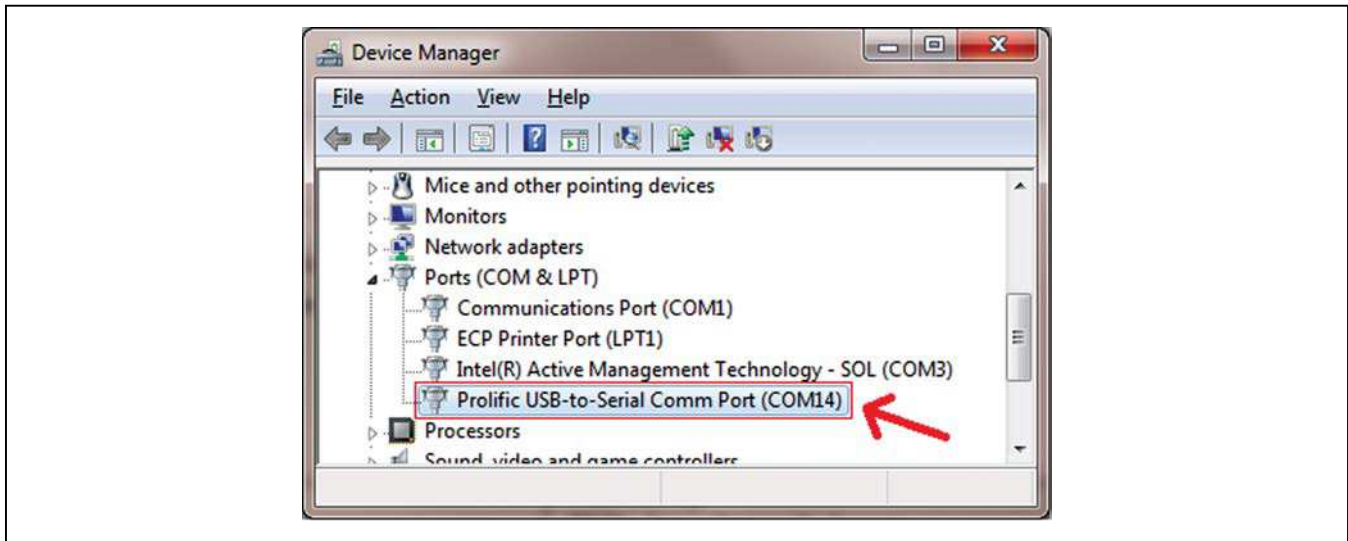

Figure 1. DS9400 COM Port
- 2) The DS9400 USB-to-I2C adapter uses both the Prolific PL-2303HXD and a microcontroller to provide an I2C port on any computer. Verify correct installation of the virtual COM port by inserting the DS9400 into a spare USB port on the computer. Check the COM port by looking in **Control Panel|System|Device Manager** and expand **Ports (COM & LPT)**. If the driver installed correctly, the driver should display as in the example shown in Figure 1. Note that your COM port number may be different.